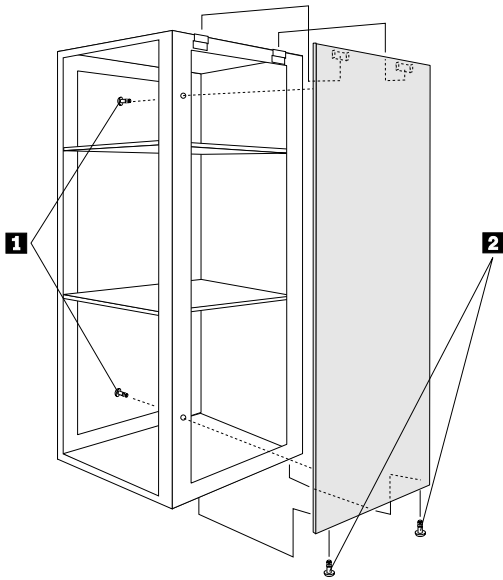

Figure 13. Removing the Server Rack side panel
2. Remove the left side panel from your PC Server Rack. (see Figure 13).